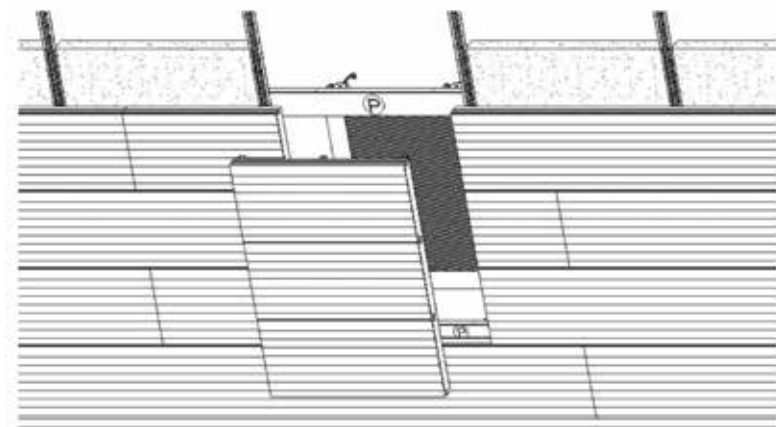

Fig. 1
■ **Fig.1:** : If the substructure is made from galvanized sheet steel profiles in accordance with EN 14195:2015, two additional CD profiles „P” are installed parallel to the existing substructure at the edge of the opening. The distance between these two CD profiles corresponds to 3 acoustic element widths „E”, whereby the centre is measured from the profile.